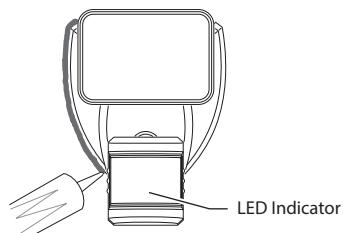

**Figure 5**
3. Tighten the mounting bolt securely being careful not to overtighten (see Figure 5).
4. Push the plastic plug firmly into the mounting bolt hole on the light fixture (see Figure 5).